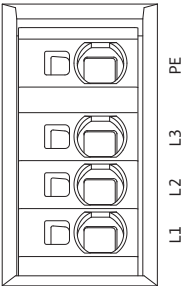

Fig.28: Borne electrice (borne de rețea)
- Borne electrice (borne de rețea) (Fig. 28)